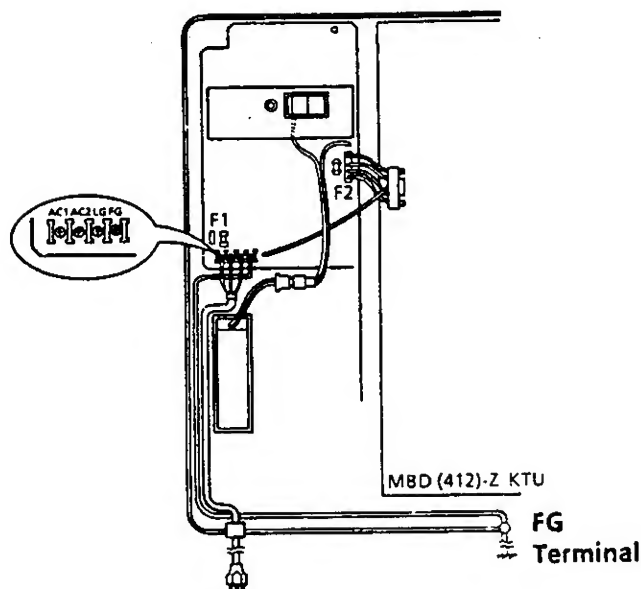

Figure 200-2 KSU Grounding
3. Where a ground other than circuit ground is used, a grounding terminal is provided on the PSZ-8-1 in the KSU as shown in Figure 200-2.